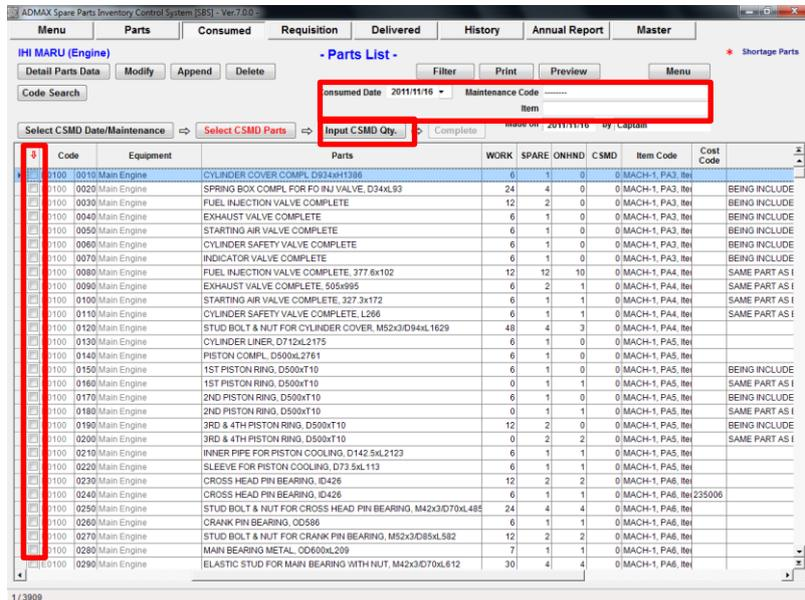
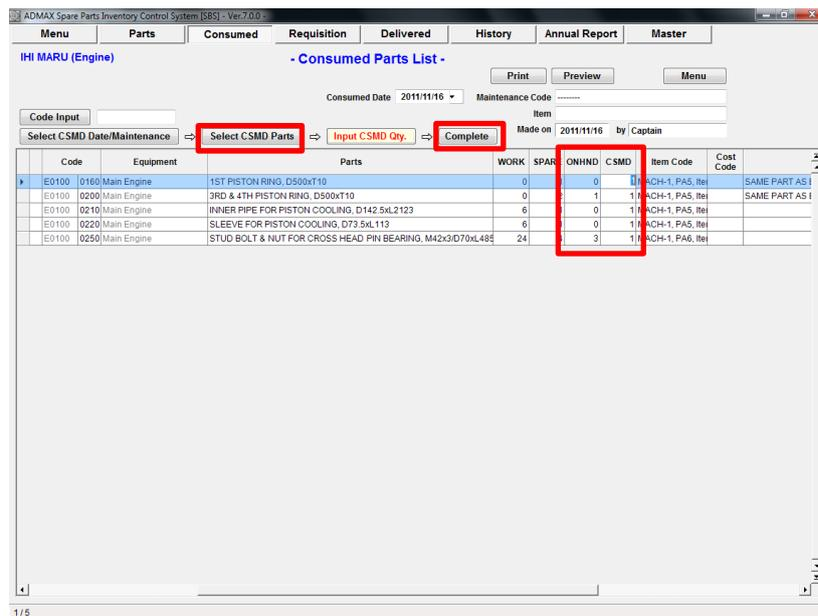

Fig 5.2 Select Consumed Parts
Fig 5.3 Input Consumed Qty.
2. "Select Consumed Parts Screen"(Fig.5-2) is displayed. If consumed spare parts data which has not been completed existed, "Input Consumed Qty Screen"(Fig.5-3) is displayed instead of Fig.5-2. (Go to Step 6) Fig 5.2 Select Consumed Parts.
6. "Input Consumed Qty Screen"(Fig.5-3) is displayed. In this screen, all spare parts selected by step 5 are shown.